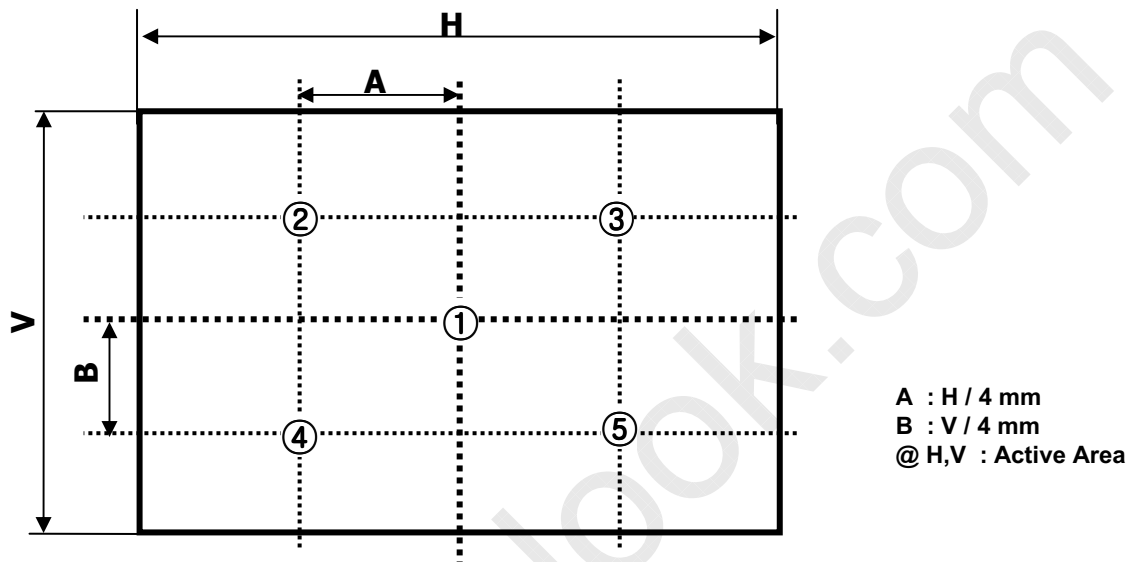

FIG. 10 5 Points for Luminance Measure
- Surface luminance is determined after the unit has been 'ON' and 1Hour after lighting the backlight in a dark environment at $25 \pm 2^\circ\text{C}$. Surface luminance is the luminance value at center 1-point across the LCD surface 50cm from the surface with all pixels displaying white. For more information see the FIG. 10.
For more information, see the FIG. 10.